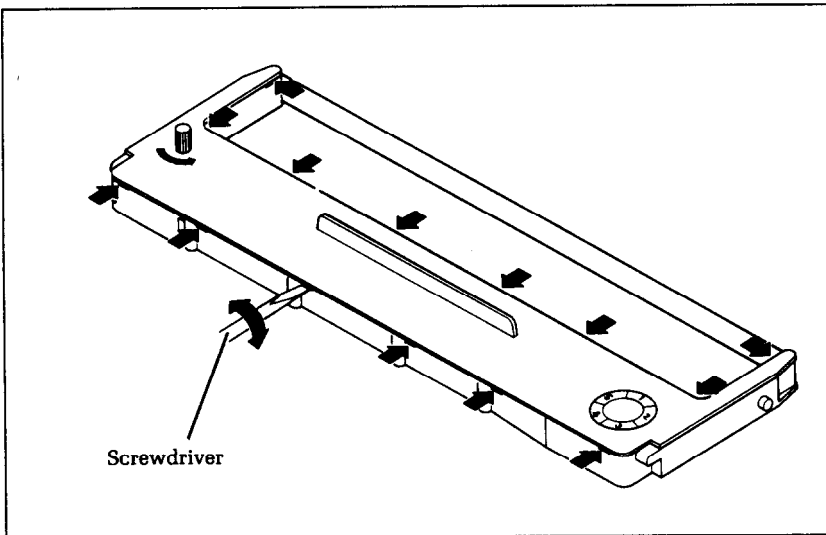

Figure 11-1. Use a screwdriver to pry open the cartridge.
3. Pry open the cartridge cover with a thin-bladed screwdriver. Arrows in Figure 11-1 show the numerous slots for inserting a screwdriver.